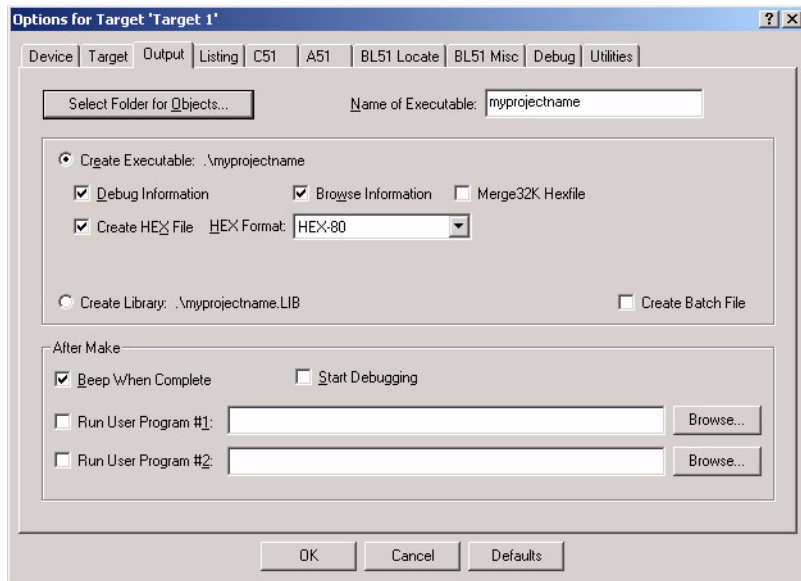

Figure 5-3. Keil uVision2 Options for Target, Output Tab
1. On the *Output* tab, *Create HEX File* must be selected with the *Hex Format* set to *HEX-80*. If the name for the output files (either Hex or OMF) is different from the project name, it should be typed into the *Name of Executable* field. The *Debug Information*, *Browse Information*, and *Create Executable* check boxes should be selected. (See Figure 5-3 on page 38.)